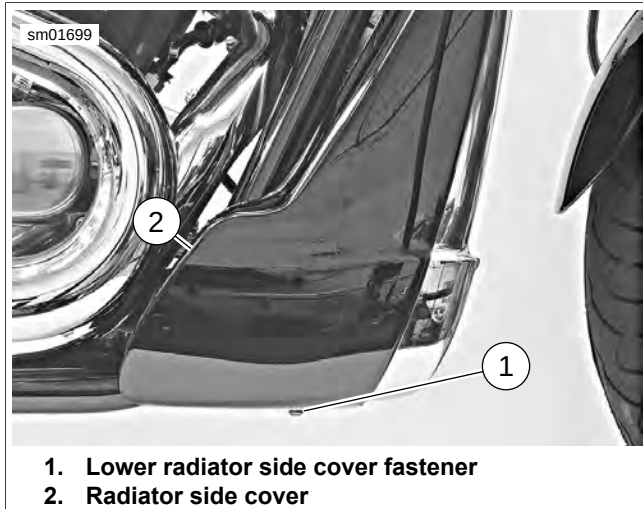

Figure 1-80. Lower Radiator Side Cover Fastener (typical) (mid mount control right side shown)
2. See Figure 1-80. Remove lower radiator side cover fastener.
4. See Figure 1-80. Install radiator side cover fastener. Tighten to 3-4 Nm (27-35 **in-lbs**).